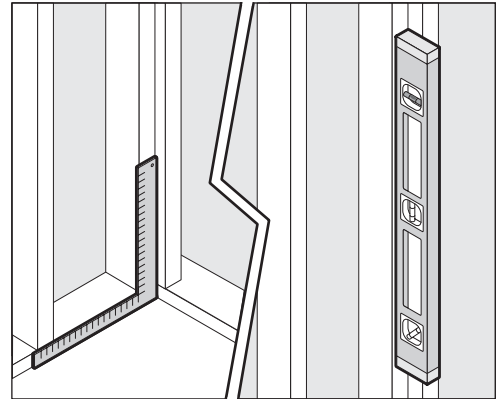

FIGURE 1. Check that studs are plumb with floor/shower.
- Check that the sub floor for the base is level and studs are plumb to the sub floor. (Fig. 1)